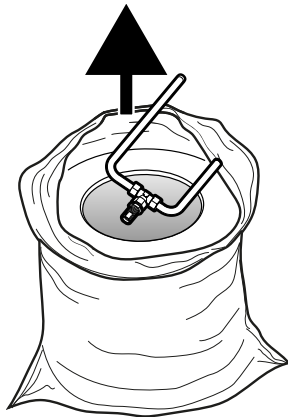

Fig. 30
8. Remove the air nozzle from the filter cartridge (**Fig. 30**) ready to reinstall it on the new filter cartridge.